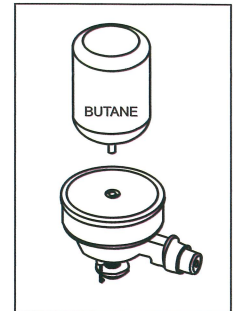

figure 1
- 1.2** Insert the container nozzle vertically down into the filling valve. For best results, with pumping action several times. (Please see **figure 1**)